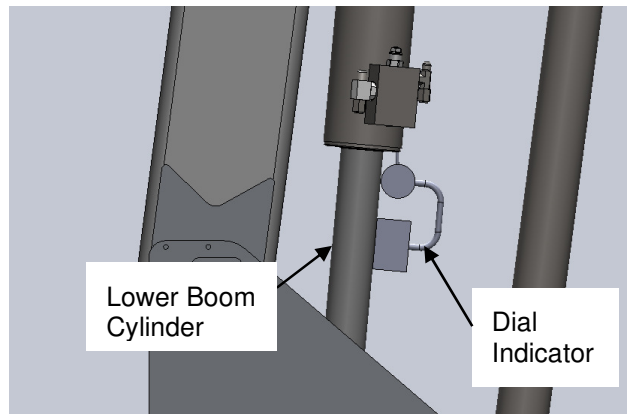

Figure 3. Placement of Dial Indicator
- f. Place a dial indicator on the lower boom lift cylinder rod, reading to the case of the cylinder as shown in Figure 3. Zero the dial indicator before conducting the pull test.